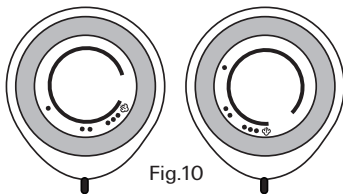

Fig.10
1. First, ensure that: Tank has filled with water. "Dial Knob" should set to around 'MAX' position.(Fig.10)